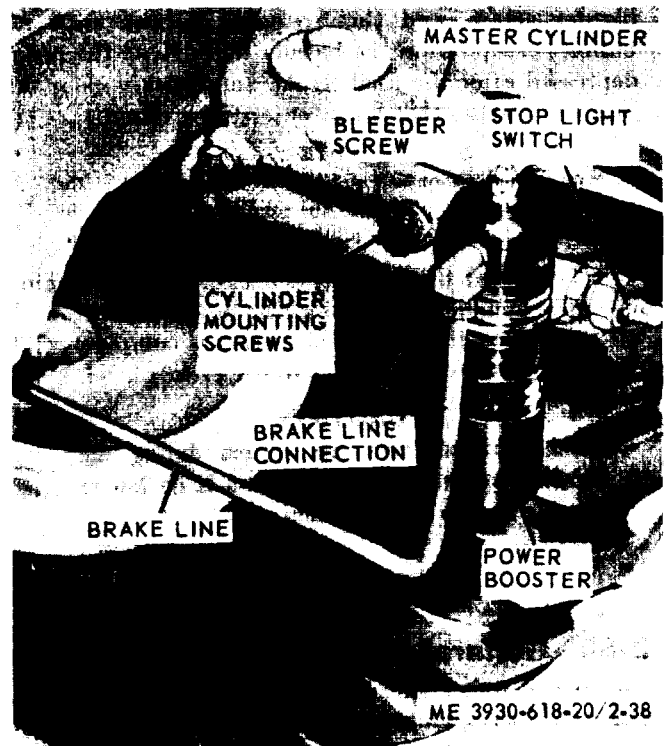

Figure 2-38. Brake master cylinder and brake power booster.
a. *Removal.* Refer to figure 2-38 and remove the master cylinder assembly as follows :
(5) Remove the screws holding the master cylinder assembly to the inside of the frame and remove the cylinder.
b. Removal. Refer to figure 2-38 and remove the power booster as follows :
(1) Remove the floor plate.
(2) Disconnect the brake line at the power booster.
(3) Using an open-end wrench of the proper size, hold the connecting nipple to the master cylinder while removing the power booster.